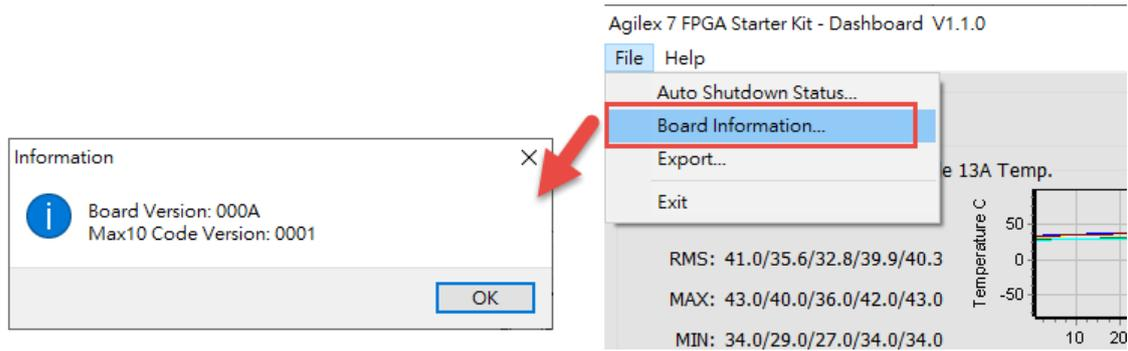

Figure 3-17 Board Information
- **Board Information:** Click the “Board Information” to get the current MAX 10 FPGA software version and the Agilex 7 FPGA Starter Kit board version, as shown in **Figure 3-17**.